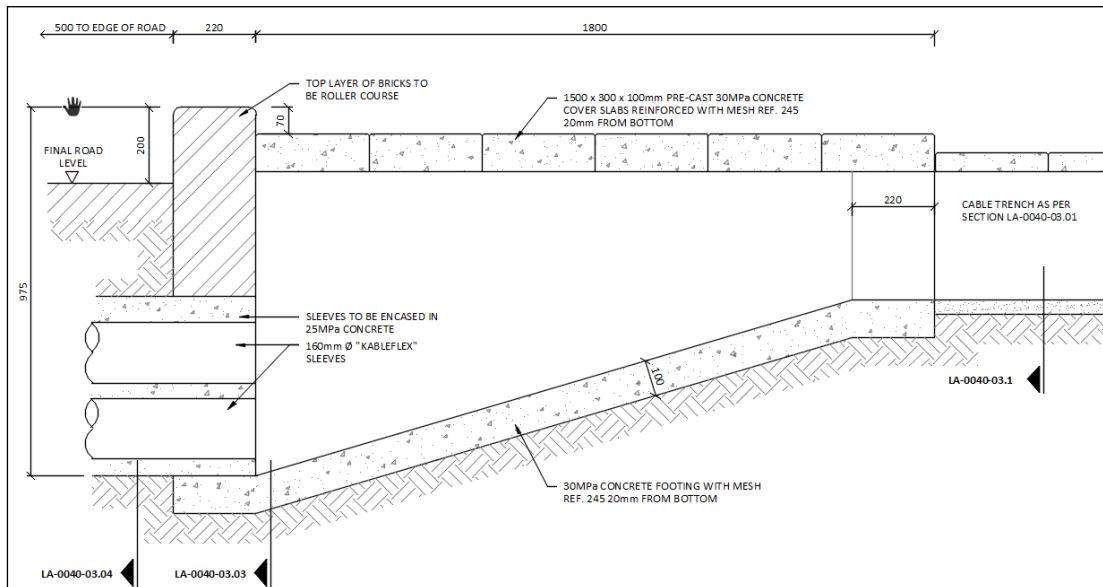

Figure 51: Typical Cable Sleeve Transition Detail (1)
- Figure 51: Typical cable sleeve transition detail (1).